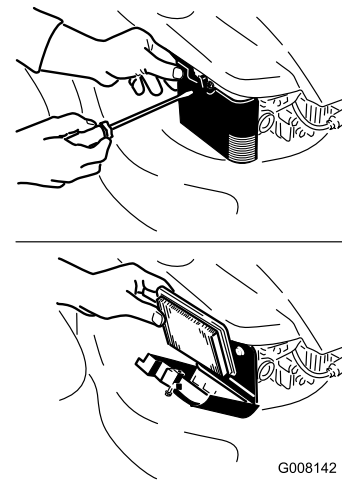

Figure 25
2. Open the air filter cover and remove the old air filter (Figure 25).